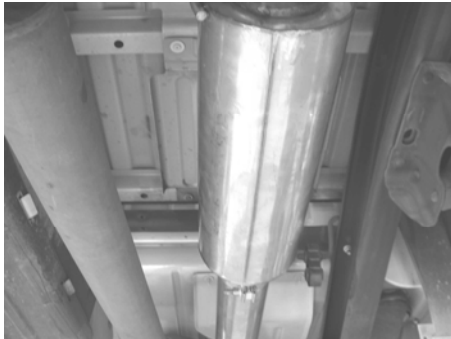

Figure 5
3. Place a clamp over the expanded end of the muffler assembly and set it into position as shown in figure 5 installing the hangers into the rubber brackets. **DO NOT** tighten the clamp.